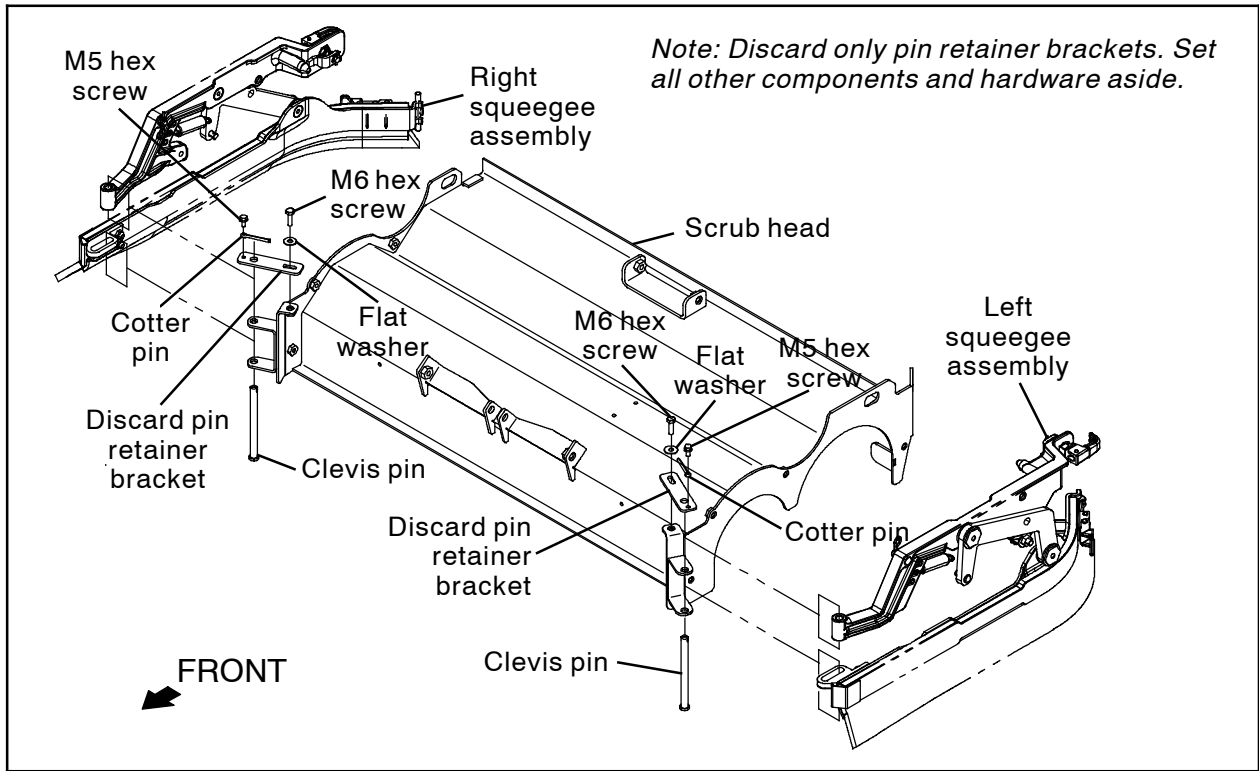
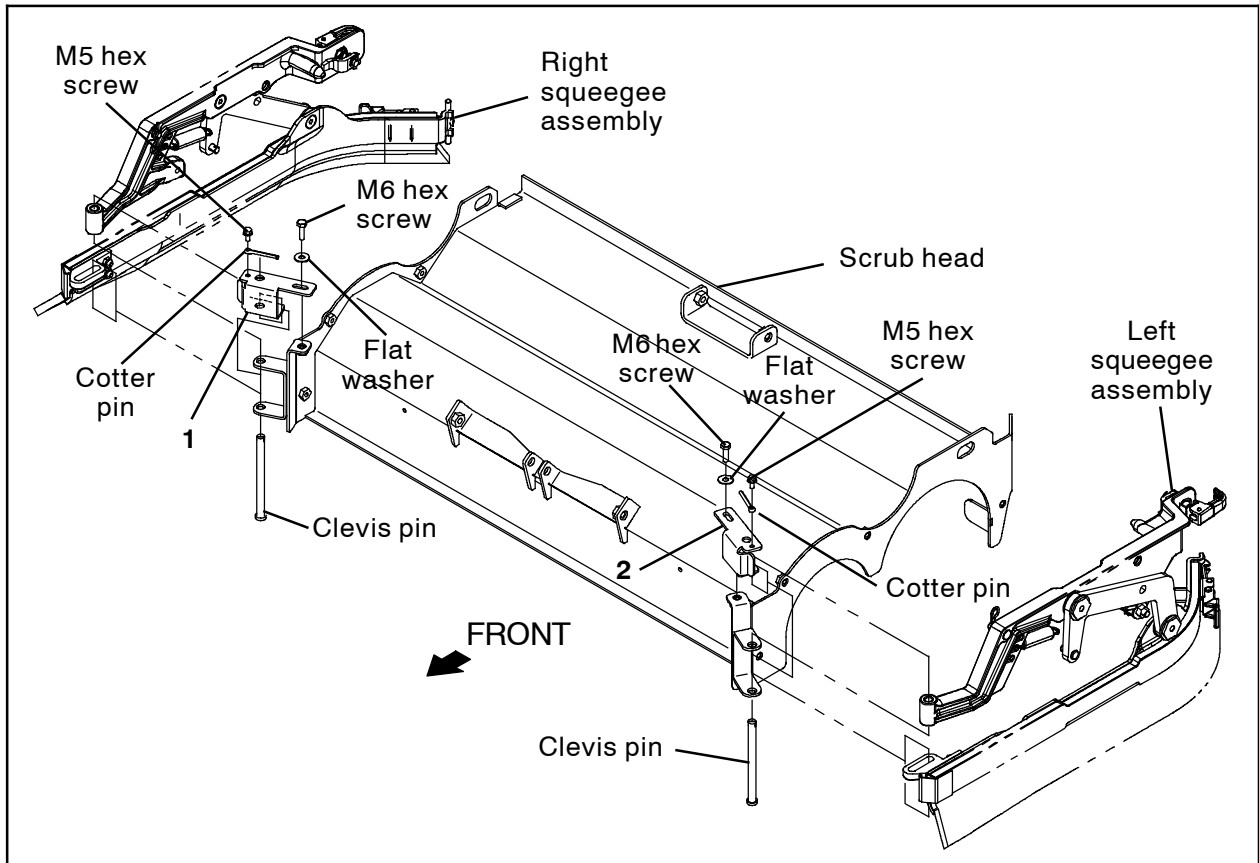

FIG. 1
FIG. 2
1. Remove both the right squeegee assembly and the left squeegee assembly from the machine. Set all hardware aside except the pin retainer brackets. Discard both pin retainer brackets. (Fig. 1)
*NOTE: Although the following instructions reference only installing the right pin retainer bracket (1) onto the scrub head, use same instructions to install the left pin retainer bracket (2) onto the left side of the scrub head.*
2. Use the M6 hex screw to install the right pin retainer bracket (1) onto the scrub head. (Fig. 2)
3. Use the clevis pin to install the right squeegee assembly onto the right pin retainer bracket (1) / scrub head. (Fig. 2)
4. Use the M5 hex screw and cotter pin to secure the clevis pin to the right pin retainer bracket (1). (Fig. 2)
5. Repeat the previous procedure to install the left pin retainer bracket (2) onto the scrub head. (Fig. 2)